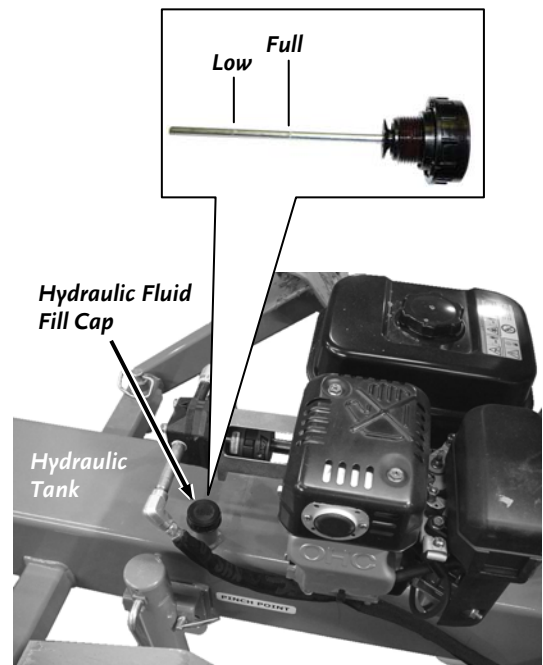

Figure 4
- Remove the Hydraulic Fluid Fill Cap Dipstick and fill the Hydraulic Tank (**Figure 4**) with the recommended fluid (see the "specifications" section, page 2). The tank is full when the fluid level is at the full mark on the Dipstick.